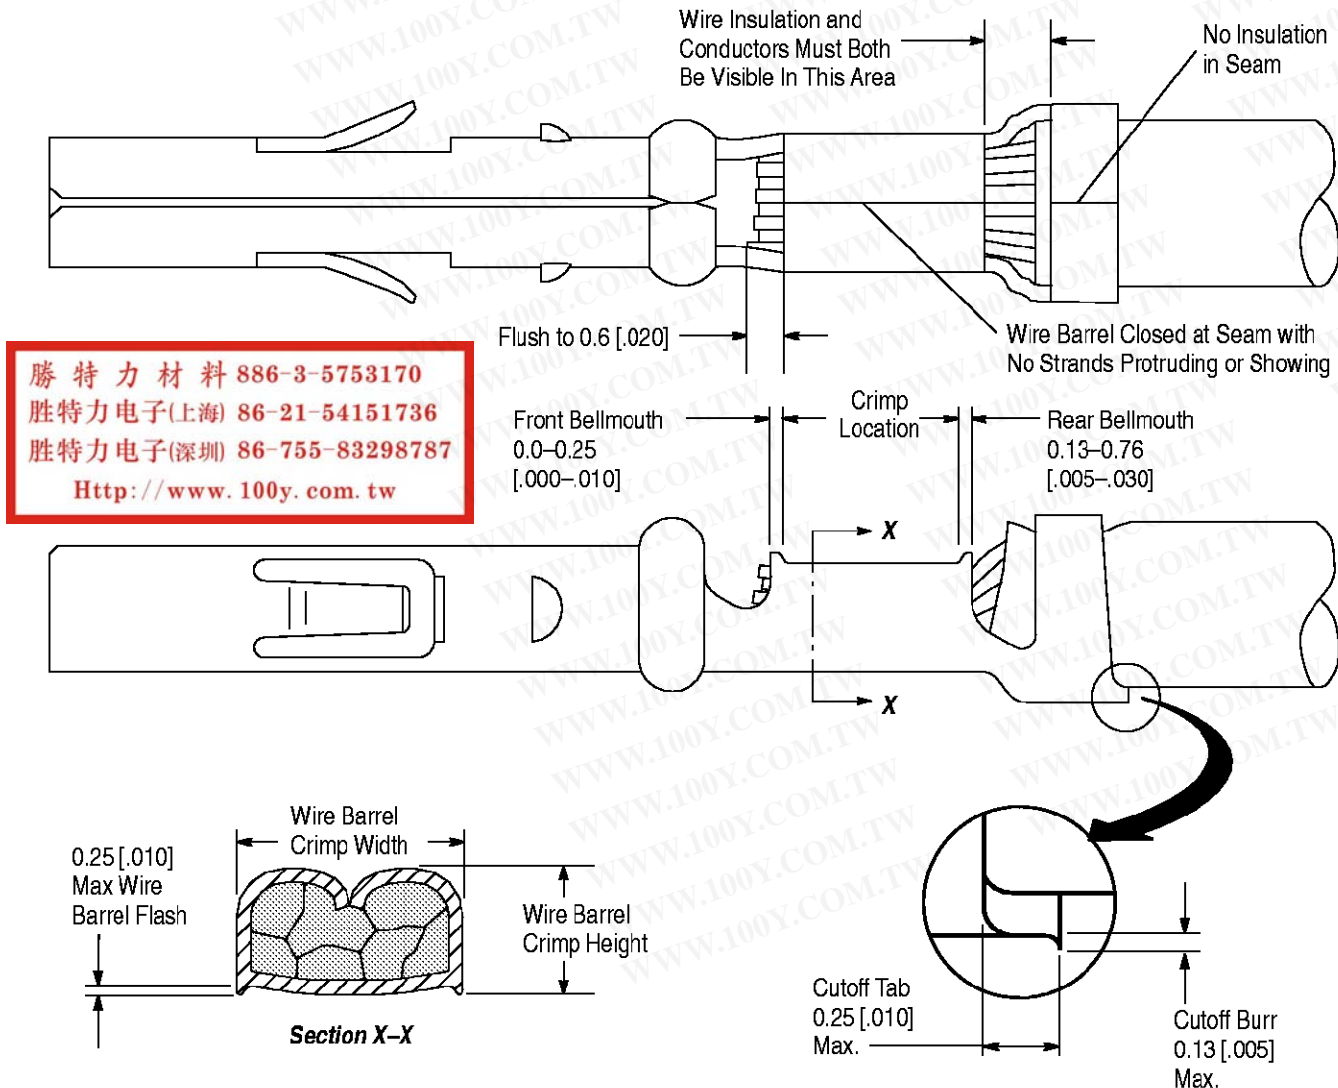

Figure 3
- Added new Figures 3, 4, 6, and 7 and renumbered
For optimum crimp effectiveness, the crimp must be within the area shown and must meet the crimp dimensions provided in Figure 3. Effective crimp length shall be defined as that portion of the wire barrel, excluding bellmouth(s), fully formed by the crimping tool. Instructions for adjusting, repairing, and inspecting tools are packaged with the tools. See Section 5, TOOLING.
Front and rear bellmouths shall be evident and conform to the dimensions given in Figure 3.
The cutoff tab shall be cut to the dimensions shown in Figure 3.
The cutoff burr shall not exceed the dimensions shown in Figure 3.
The wire barrel flash shall not exceed the dimensions shown in Figure 3, Section X-X.
The insulation barrel shall grip the insulation firmly without cutting into it. Care must be taken to prevent cutting, nicking, or scraping of the insulation. Insulation crimp shall comply to width and height provided in Figure 3.